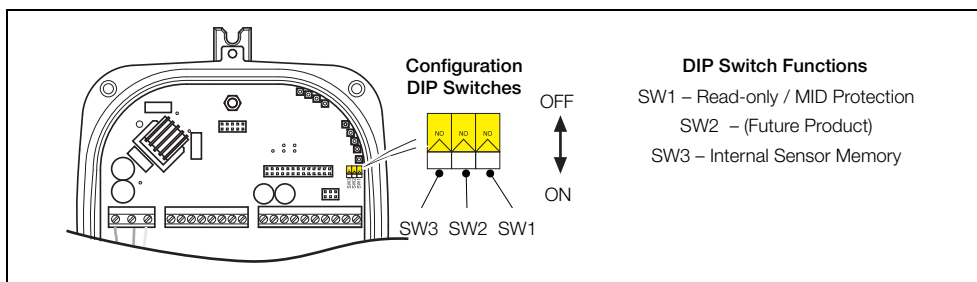

Fig. 4.20 Configuration DIP Switches
4. For high integrity / security installations, set DIP switch SW1 to the 'ON' (Read-only) position – see Fig. 4.20, page 28.
5. Align the transmitter cover with the housing and tighten the four cover screws (C) carefully.
6. For high integrity / security installations or where MID is required, fit anti-tamper seals to the security fixtures (D).
Note. If this screen is displayed on an integral transmitter, check that DIP switch SW3 is in the 'ON' position (refer to Fig. 4.20, page 28).
To correct this condition, set DIP switch SW3 to the 'OFF' position (refer to Fig. 4.20, page 28).